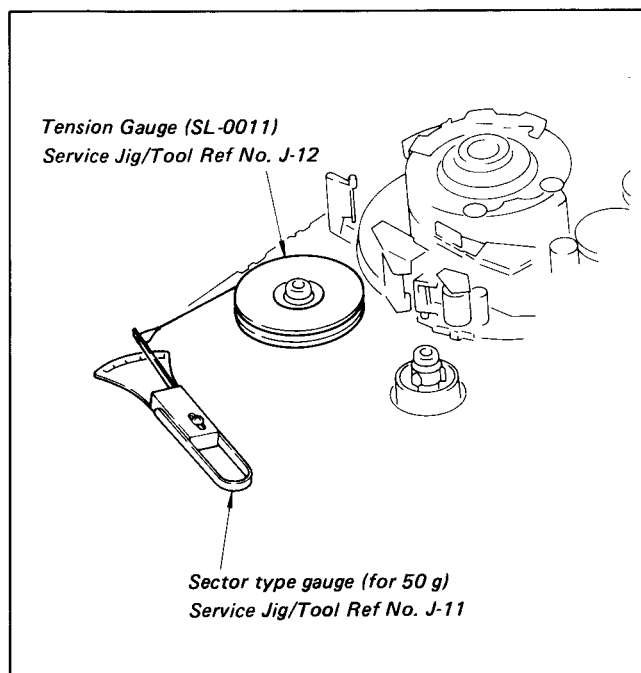

Fig. 3-30. Soft Brake Adjustment-1
- 1) Place a tension gauge (SL-0011) on the S reel base and hook a sector type gauge as shown in Fig. 3-30.